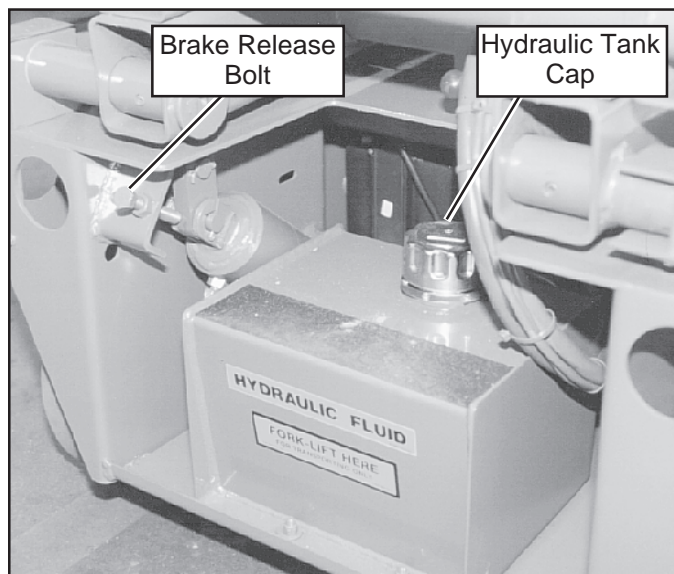

Figure 4: Chassis Rear View
5. Check that A.C. extension cord has been disconnected from the plug in the right Chassis Module (Figure 4) and the module door secured.
Parking Brake Release (Figure 4)